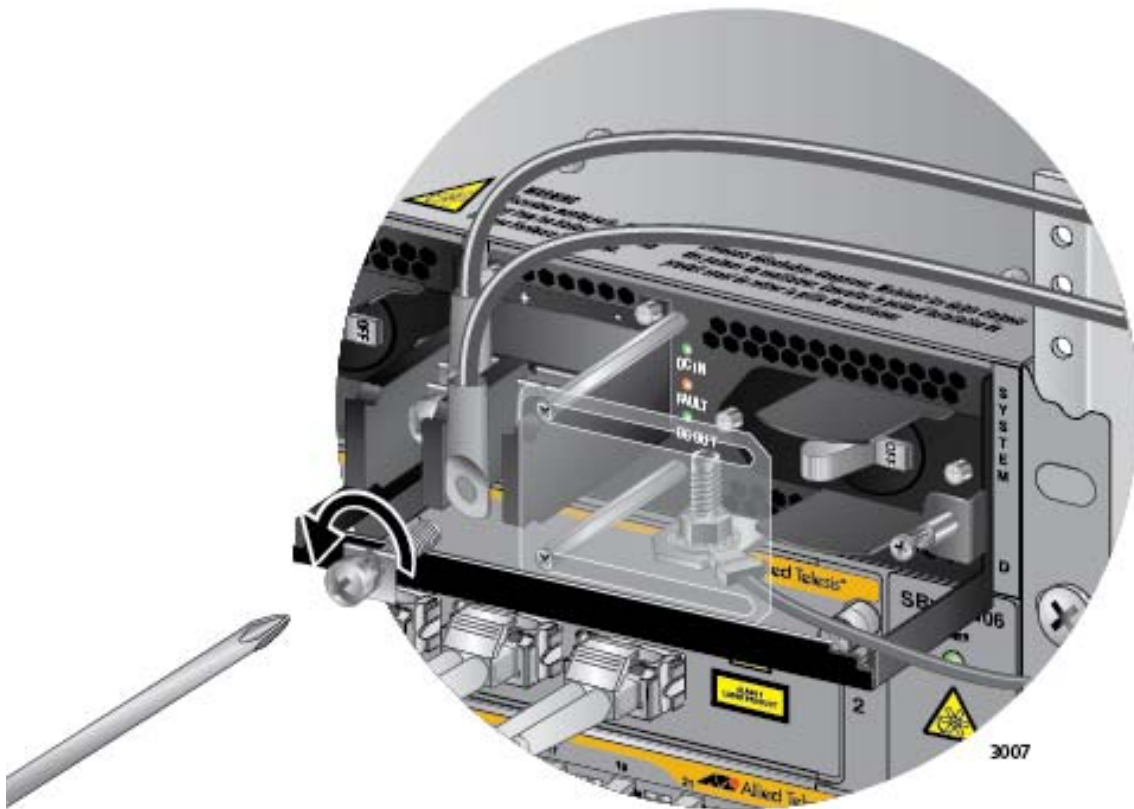

Figure 154. Removing the Negative Lead Wire
5. Use a #3 screwdriver to remove the negative (-) lead wire from the terminal block. The negative lead wire is on the right. Refer to Figure 154 on page 246.